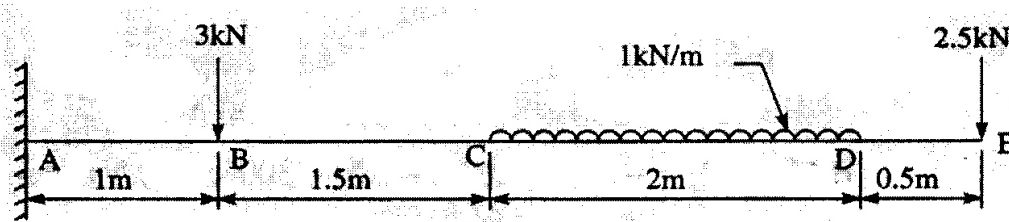

Fig. 1
(2) Each question carries **ten** marks.
11. Draw shear force and bending moment diagrams for the cantilever shown in Fig. 1 :